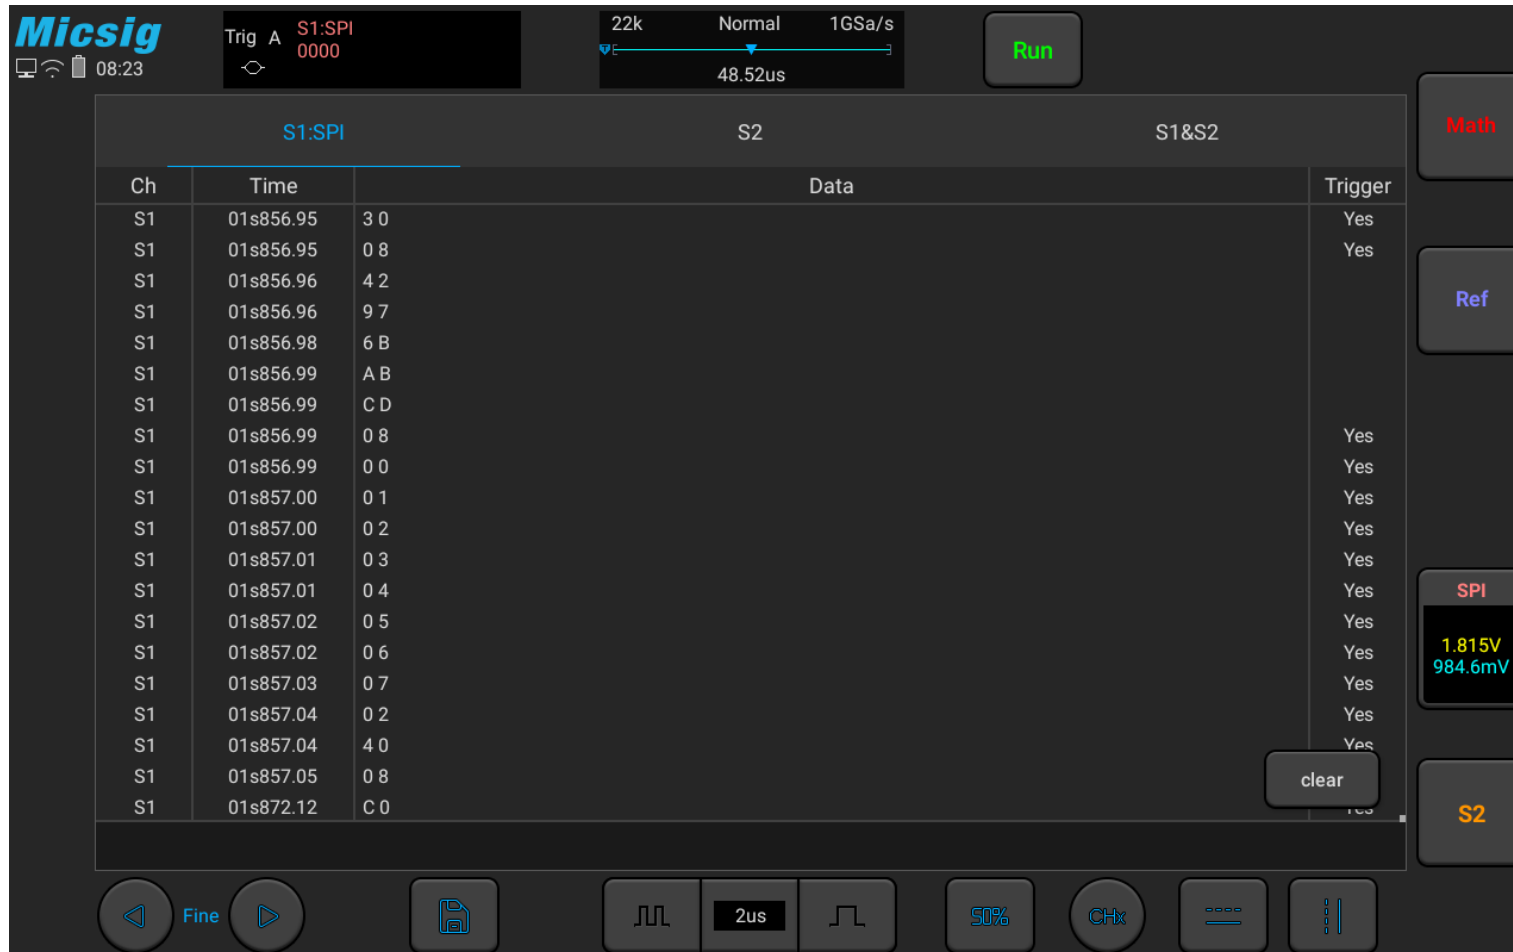

Figure 11-21 SPI Text Interface
**SPI text interface description, as shown in Figure 11-21:**
- (1) “Ch”: bus channel.
- (2) “Time”: Time intervals between the last frames to current frames.
- (3) “Data”: According to the data word length setting, the decode data is displayed. For example, if the data word length is 8bit, only one byte displays in the data column; if the data word length is 16bit, 2 bytes display in the data column; if the data word length is 24bit, 3 bytes display; and if the data word length is 32bit, 4 bytes display.
- (4) “Trigger”: “Yes” means the frame reaches trigger condition.